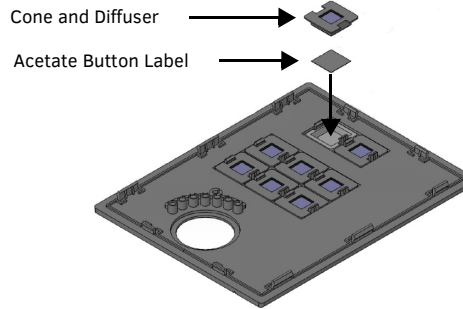

FIG. 1 PLACING A BUTTON LABEL INSIDE A BUTTON CAP
4. Place the Button Cap face-down, and insert the Button Label into the bottom of the Button Cap (FIG. 1).
Orient the Button Label inside the Button Cap so that the two clips are located on the left and right sides of the readable text on the Button Label, as indicated in FIG. 1. Be sure to place the Button Label face-down inside the Button Cap, otherwise the label will be seen in reverse once the Button Cap is installed.